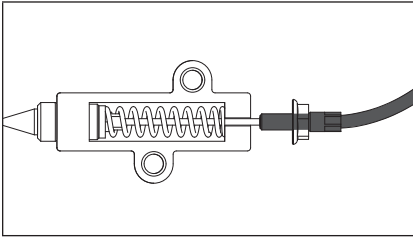

Figure 91
6. Loosen the cable from the spring barrel, by turning counterclockwise. (Fig. 91)